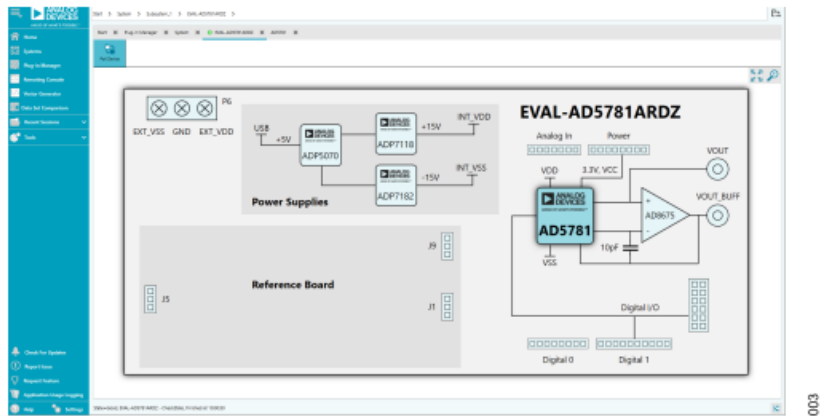

Figure 3. Board View of the EVAL-AD5781ARDZ
3. Double-click the board plug-in to open the Board View seen in Figure 3.